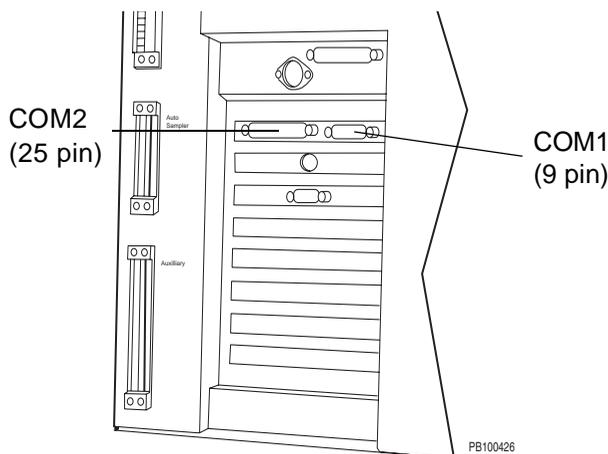

Figure 2-7 Connecting AFC 2000
- Connect the 9-socket D-connector to a COM port on the left side panel of the BioCAD 700E Workstation (Figure 2-7). COM1 is recommended.
NOTE: The arrangement of boards in your computer may not exactly match Figure 2-7. To identify COM1, look for a 9-pin connector. To identify COM2, look for a 25-pin connector.